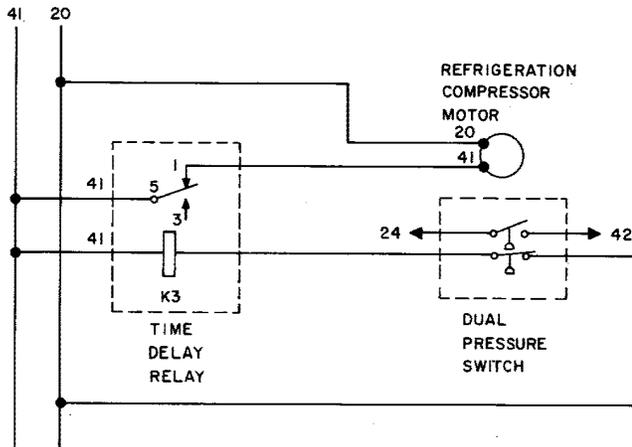

Fig. 14—L103 Freeze-Up Protection Modification Kit Installation
2.34 This modification kit is installed on L1 and L2 air dryers as follows (see Fig. 14 and 18):
- (3) Install dual pressure switch provided with kit, using the same screws removed in Step (2).
- (4) Wire leads 42 and 24, which were disconnected from the KS-5793 L3 pressure switch in Step (1), should be reconnected to the terminals located in the top right-hand corner of the new switch.
- (5) Using the front mounting bracket provided with the relay as a drilling template, drill four 3/16-inch holes in the left-hand horizontal support bracket.
- (6) Mount the bracket to the relay and the relay assembly to the air dryer horizontal support bracket using screws, nuts, and washers provided with kit.
- (7) Using an adjustable wrench, remove top cover of relay and check time delay setting of 120 seconds (2 minutes).
- (8) Using the 12 feet of wire provided with the kit, wire time delay relay, pressure switch contacts (top left-hand terminals), and lead 41 located at terminal strip as shown in Fig. 14.